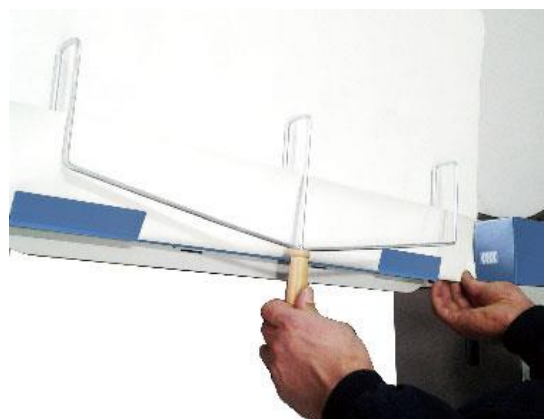

Fig. 6-2
5. Guide the banner into machine. The drive belts will grab banner and pull the banner through machine. (Fig. 6-2)